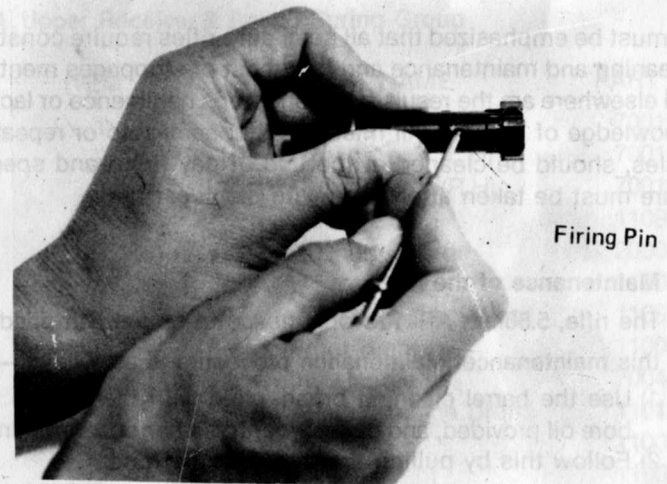

Fig. 22
19. Remove extractor pin (Fig. 22)